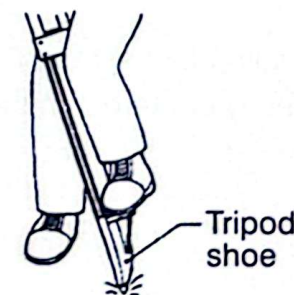

Fig.4.2
- 4) Make sure that the tripod head is approximately level. Fix the tripod shoes firmly into the ground. (Fig.4.2)